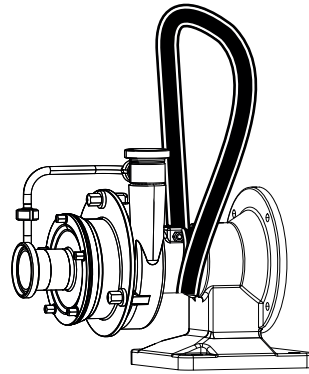

Fig. 35 Transport by crane
1. Wrap round sling two times around the lantern neck (see Fig. 35 "Transport by crane", page 30).